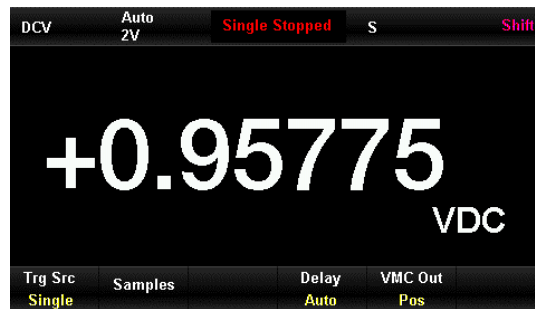

Figure 2-38 Setting interface of single trigger
- 1) Press **Acquire** button and then select [Trg Src] → [Single], or press **Single** button to turn single trigger function on directly as Figure 2-38.